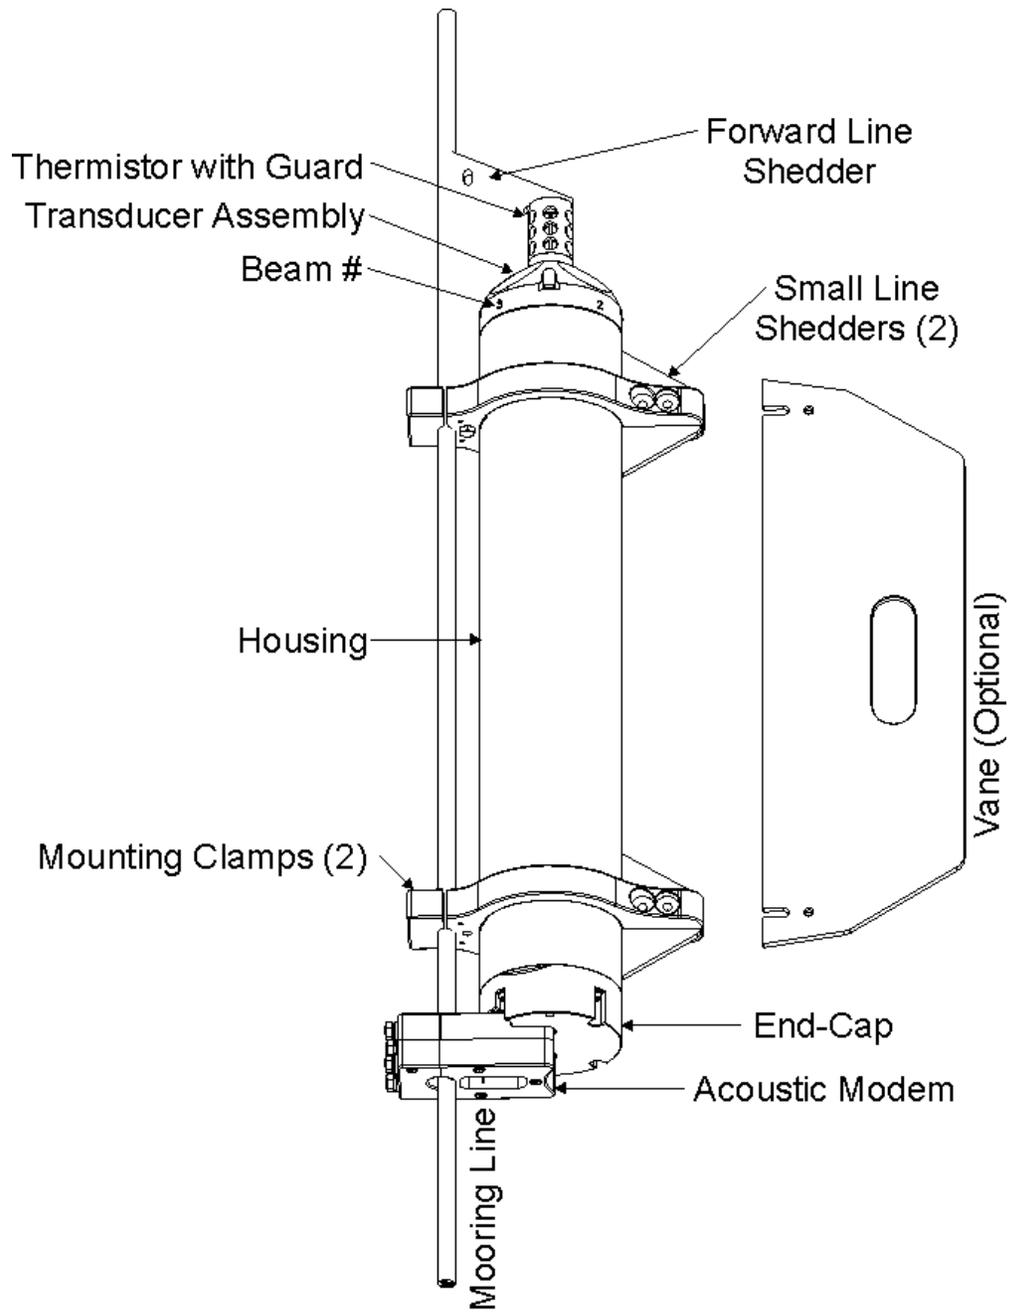

Figure 1. DVS Overview
- An optional vane can be attached opposite to the mooring line to help reduce instrument vibration should the mooring line start strumming (see Figure 1).